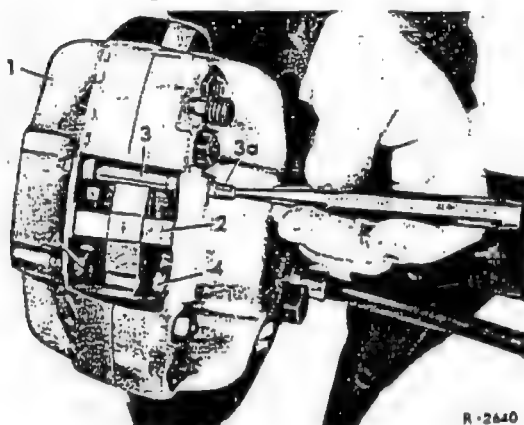

Fig. 42-10/24
11. On recent brake calipers drive the lock pins (3) into the brake caliper (1) from the inside toward the outside (Fig. 42-10/24).